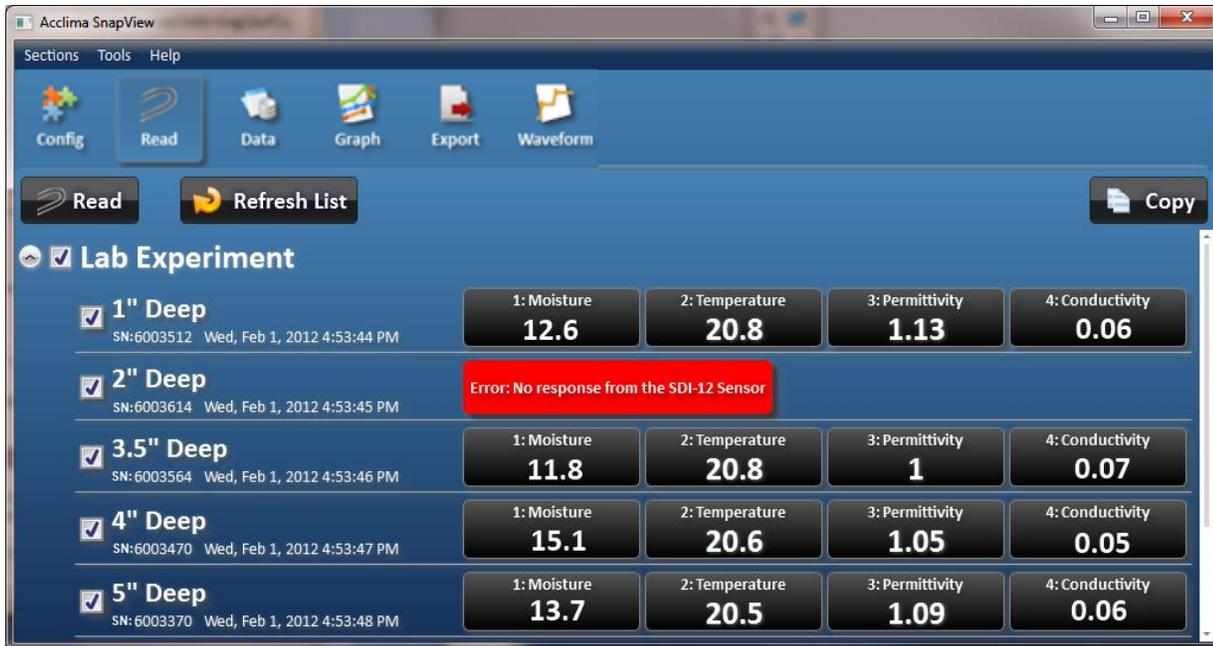

Figure 14 – Read Sensors
- Click the 'Read' button to read each selected sensor. The sensor's name, serial number, reading time and measurement data is displayed. If a configured sensor is not attached to the DataSnap, an error is displayed. Notice in figure 14 below, the sensor named '2" Deep' had an error.